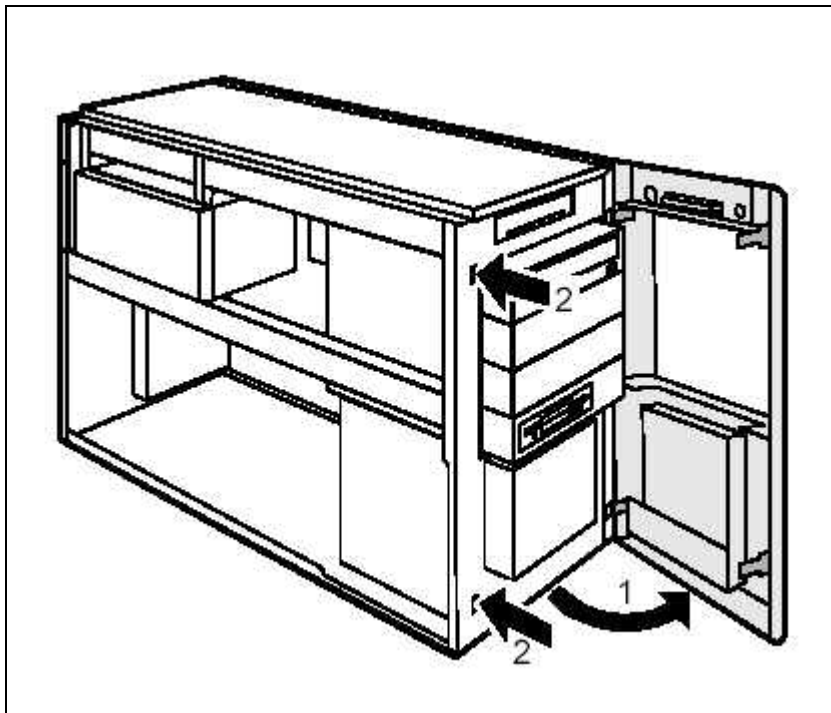

Fig. 40: Removing the front panel
3. Detach the unlocking lever (2/ Fig. 40 / p. 71) and open the front panel (1/ Fig. 40 / p. 71).